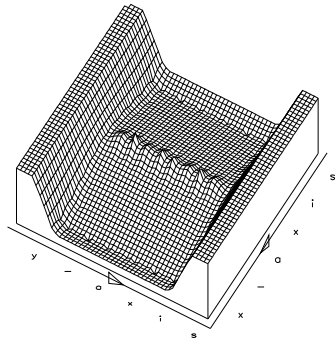

Figure 4. Example of a SURFACE plot.
- as a 3-dimensional impression (see Figure 4 on page 45),